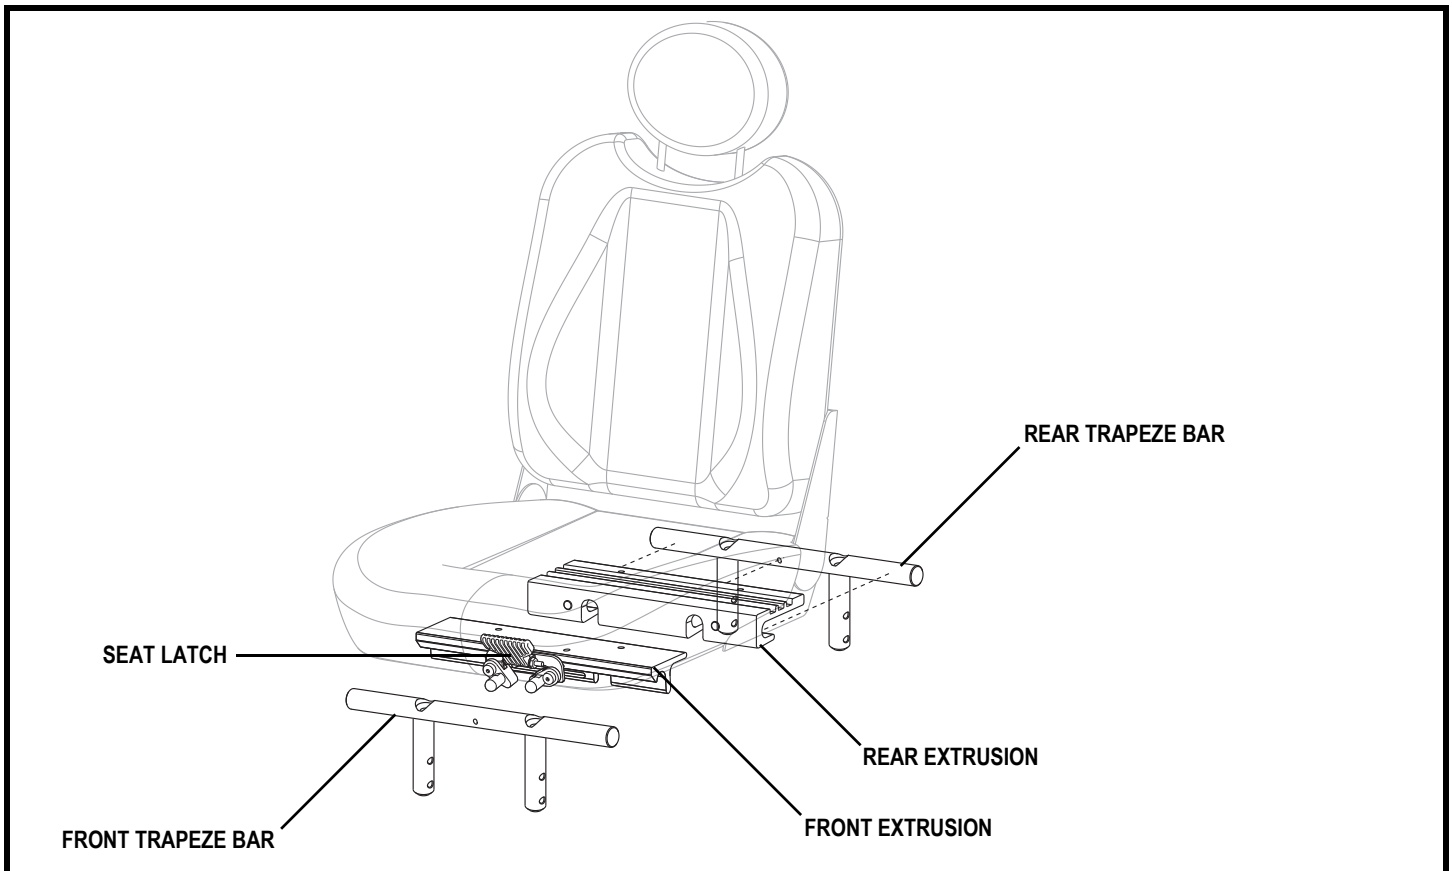

Figure 10. Universal Mounting System
2. Tilt the seat back and slide the rear extrusion onto the rear trapeze bar. See figure 10.
3. Remove the seat from the power base. **See figure 10.**